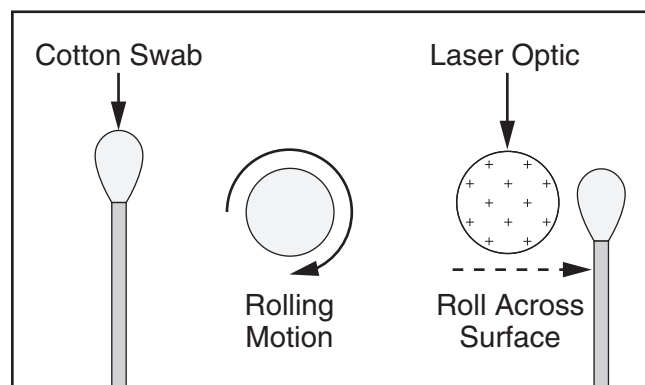

Figure 70. Rolling swab across surface.
4. With gentle rolling motion, roll swab across surface of lens/mirror to absorb any particulates stuck to surface (see **Figure 70**).